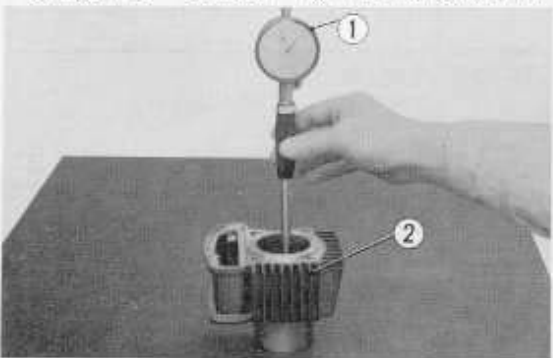

Fig. 3.51 Measuring the cylinder bore
1. Measure the cylinder bore, taper, out-of-round with a precision cylinder gauge ①. Take the measurement at the top, middle and bottom in both the X and Y axes. (Fig. 3.51)